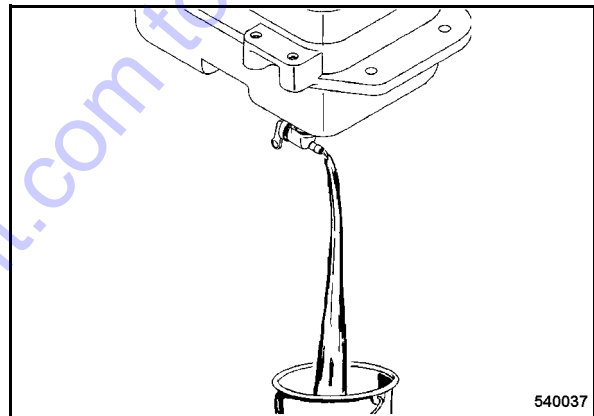

Fig. 64
- Disconnect fuel hose (Fig. 64) from fuel cock. Open the fuel cock, drain off fuel.